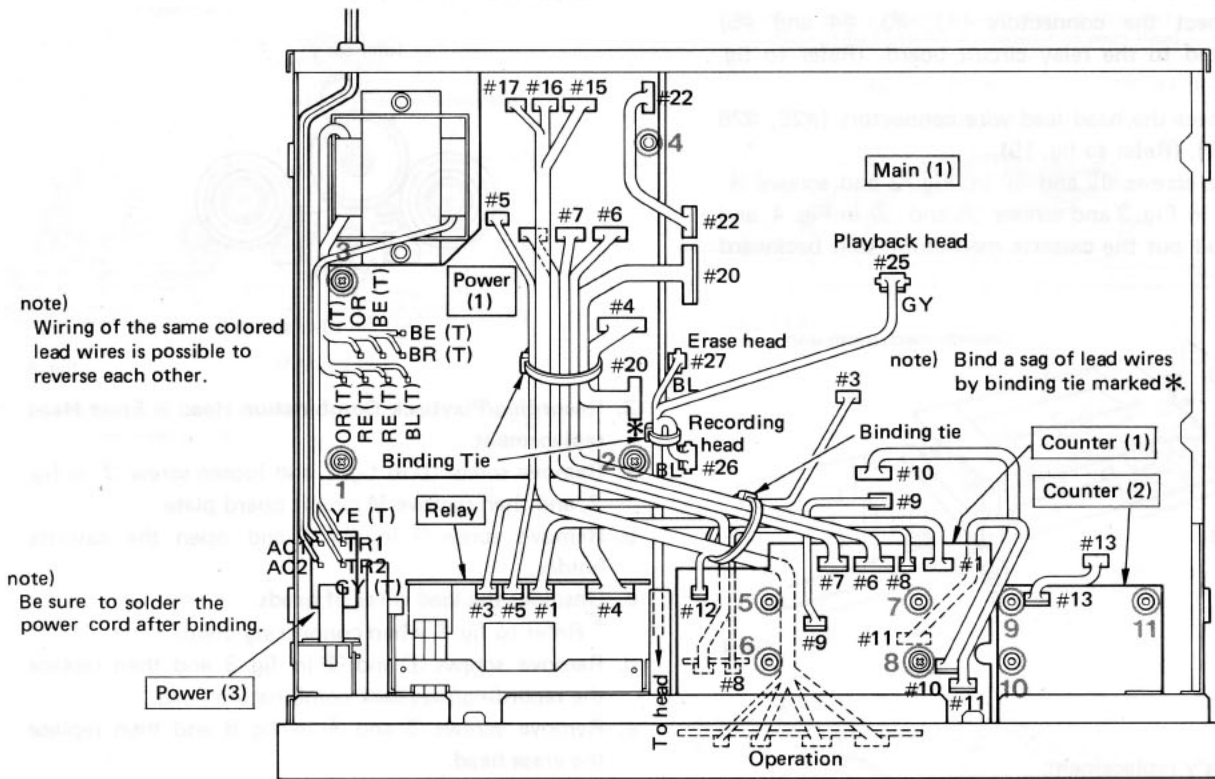

Fig. 15
- Disconnect the connectors (#1, #3, #4 and #5) connected to the relay circuit board. (Refer to fig. 15)
- Disconnect the head lead wire connectors (#25, #26 and #27). (Refer to fig. 15).
- Remove screws ① through ③ and plastic rivet 4 in fig. 15 and then remove the power circuit board (1). In this way, you can replace the parts.
Remove plastic rivets ⑤ through ⑦ and screw ⑧ in fig. 15 and then pull out the counter circuit board (1) by sliding it backward.
Remove plastic rivets ⑨ through ⑪ in fig. 15 and then pull out the counter circuit board (2) by sliding it backward.